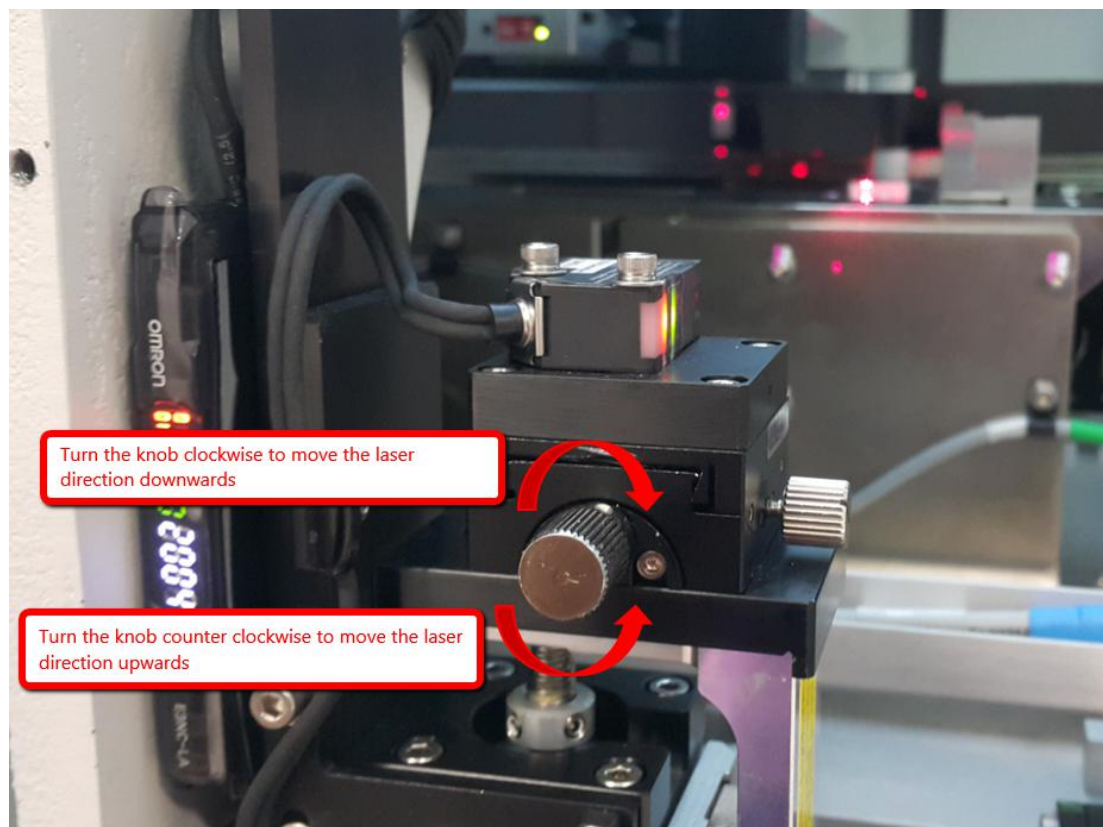

Figure 25 Knob adjustment laser
- ii. Adjust the sensor angle up and down manually (Figure 25)